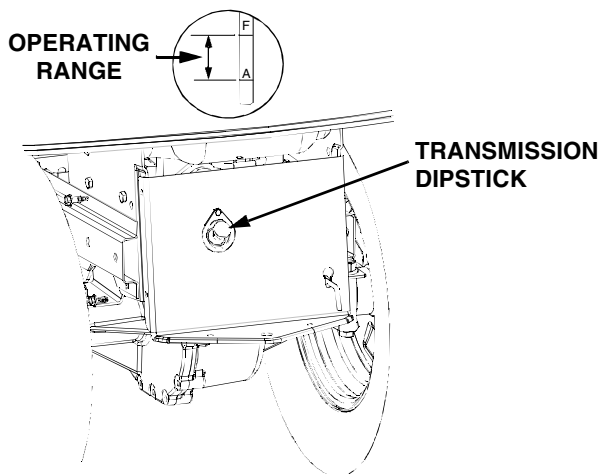

Figure 5-1
Check the oil level of the transmission case before each use to see that it is filled to the correct level. Before checking the transmission oil level, clean the area around the oil fill plug/dipstick to prevent debris from entering the transmission case. Always keep the oil level between the "FULL" and the "ADD" marks on the dipstick (See Figure 5-1). When checking the oil level, the dipstick must be withdrawn and wiped clean, then inserted all the way before being withdrawn for a true reading.
3. Remove the oil fill plug/dipstick from the oil fill port and SLOWLY pour oil into the oil fill port. Fill the transmission case until the oil level reaches the "FULL" mark on the dipstick (Refer to Figure 5-1).